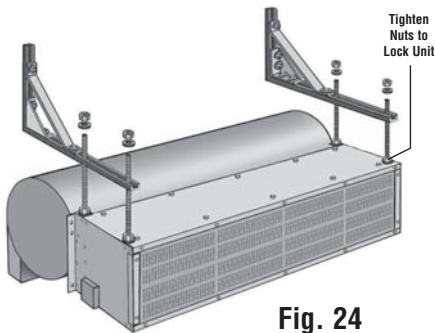

Fig. 24
5. Finally, move the air curtain into position by placing the threaded rods into the wall brackets. Using washers and hex nuts secure the unit to the brackets. (See Fig. 24). Then tighten all (4) four nuts at the bottom of the rod to lock the unit into place.